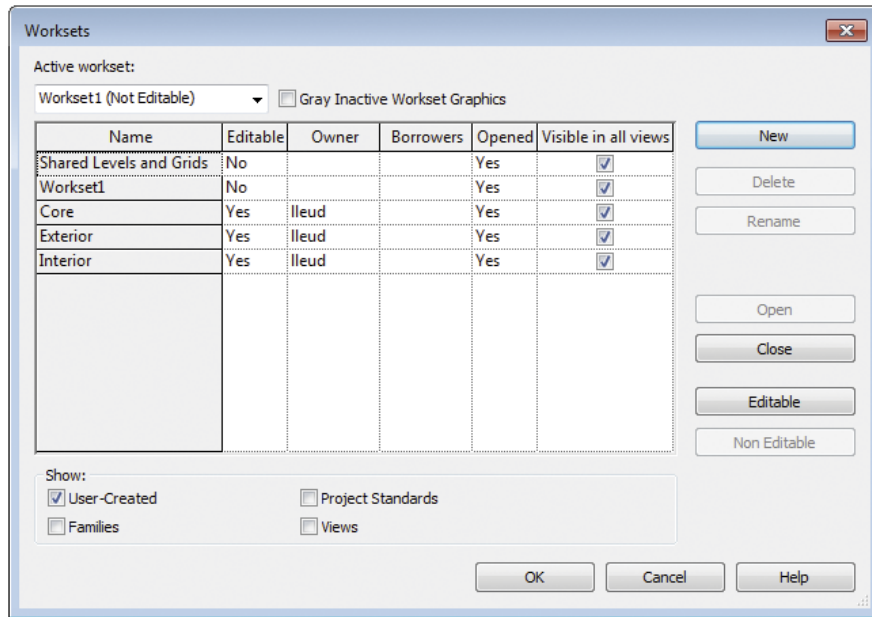

FIGURE 10.7 Creating additional worksets
6. Click New, and then create three additional worksets called Core, Exterior, and Interior (Figure 10.7).